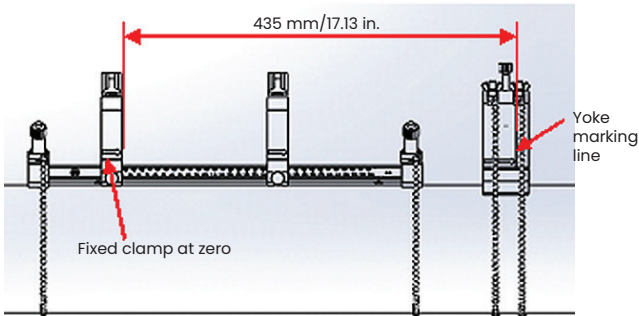

Figure 39: Yoke set at 435 mm/17.13 in.
- Place the fixed clamp in the clamping fixture at zero on the scale. As an example, if the required transducer spacing is 435 mm/17.13 in., measure the required 435 mm/17.13 in. distance from the edge of the fixed clamp to the marked line on the yoke (see *Figure 39* below).